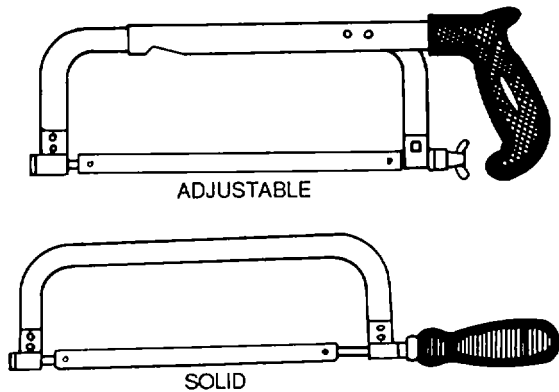

Figure 4-96. Hacksaws
(1) Frame. The frame may be solid or adjustable, as shown in figure 4-96. Adjustable frames can be made to hold blades from 8 to 16 inches long, while those with solid frames take only the length blade for which they are made. This length is the distance between the two pins that hold the blade in place. The blade is installed in the frame with the teeth pointing forward, and is tightened by turning the handle or a wing nut.